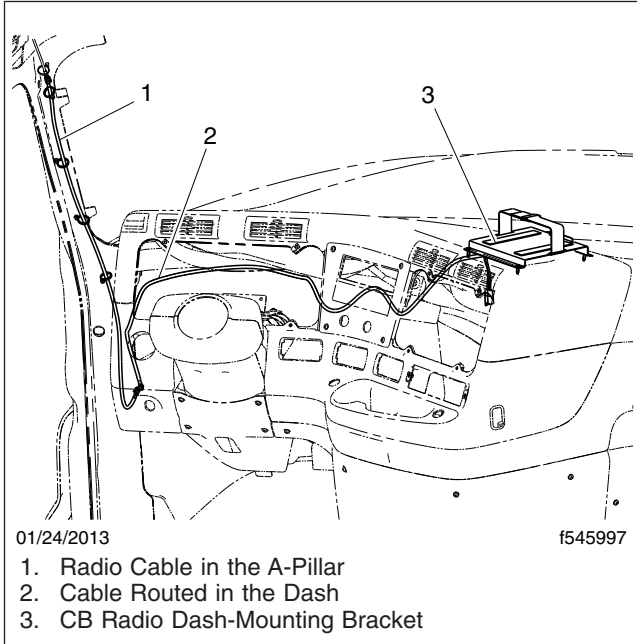

Fig. 10, Cable Routing, CB Radio
- To access the CB cable, remove the driver-side A-pillar, the instrumentation control unit, and the auxiliary instrument panel. See Fig. 10.